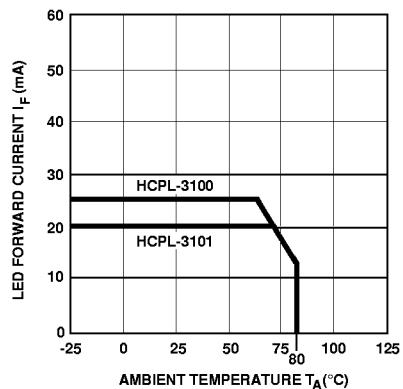

Figure 11. LED Forward Current vs. Ambient Temperature.
1. Derate absolute maximum ratings with ambient temperatures as shown in Figures 11 and 12.